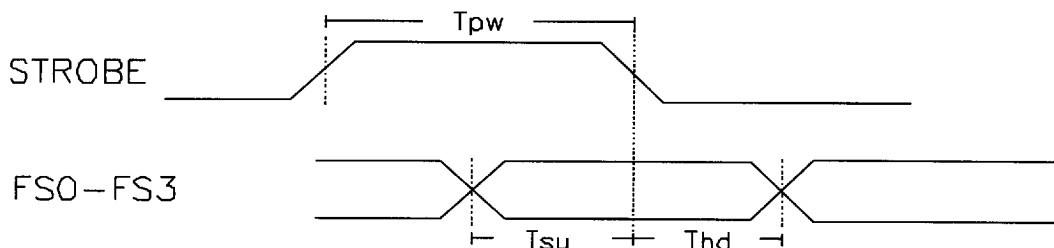

Figure 3
FS0 (4), **FS1** (5), **FS2** (7), and **FS3** (8), are the TTL compatible frequency select inputs for the binary code corresponding to the frequency desired. **STROBE** (6), when high, allows new data into the frequency select latches; and when low, prevents address changes per Figure 3. The internal power-on-clear signal will force an initial frequency code corresponding to an all-zeros input state. **MS0** (9) and **MS1** (11) are the corresponding memory select inputs and are not strobed.